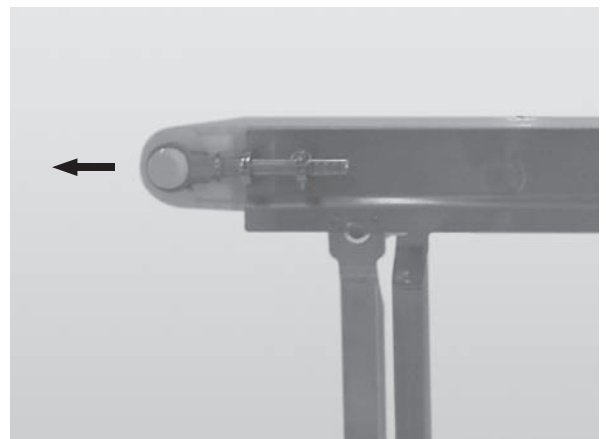

Figure 65
3. Continue extending the tension end until the belt is sufficiently tight (**Figure 65**).